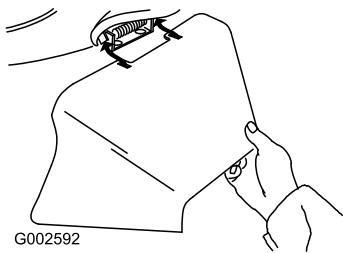

Figure 41
3. Install the side discharge chute and close the door onto the chute (Figure 41).